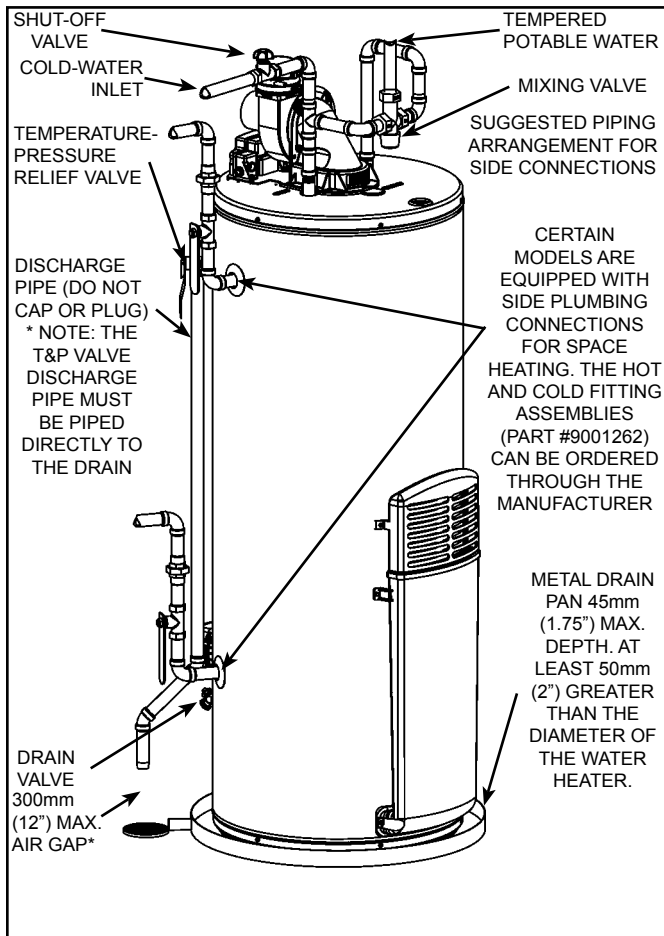
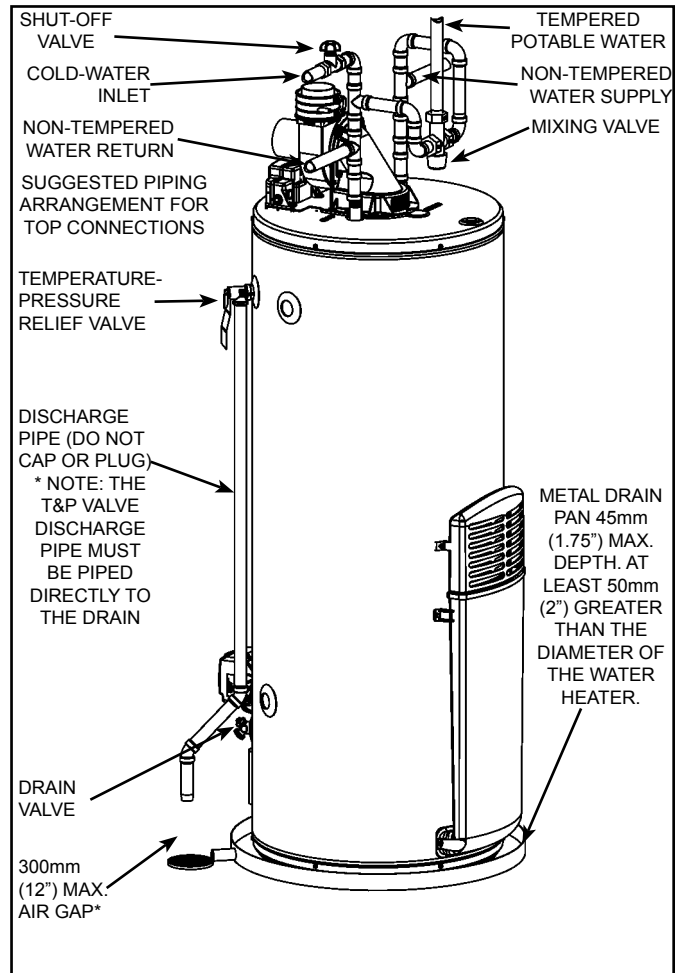

Figure 8.
Figure 9.
Models equipped with Combo Heating capabilities are shipped with the two side plumbing taps (item 18 and item 20 in Figure 1 and see also Figure 8 & Figure 22). If the heater is to be operated using the side taps, these openings **must be opened** by removing the two pipe plugs installed in the heaters.
In addition to using lowest possible temperature setting that satisfies demand of application, a mixing valve should be installed at water heater (see Figure 8 & Figure 9) or at hot-water taps to further reduce system water temperature. Mixing valves are available at plumbing supply stores. Consult a Qualified Installer or Service Agency. Follow mixing valve manufacturer's instructions for installation of the valves. Before changing the factory setting on the thermostat, read the "Operating The Temperature Control System" section in this manual.